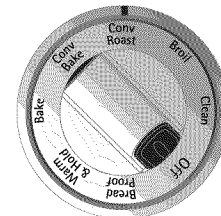

Figure 4
2. Turn the selector control knob to Conv Roast (Figure 4).